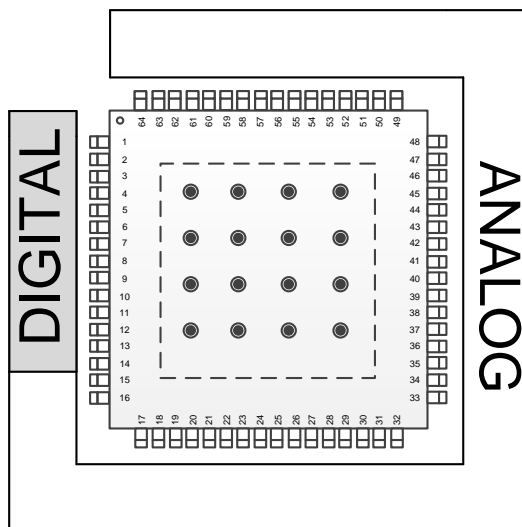

图 122. AMC7836 Example Board Layout — Component Placement
- The digital and analog sections should have proper placement with respect to the digital pins and analog pins of the AMC7836 device (see 图 122). The separation of analog and digital blocks allows for better design and practice as it ensures less coupling into neighboring blocks and minimizes the interaction between analog and digital return currents.